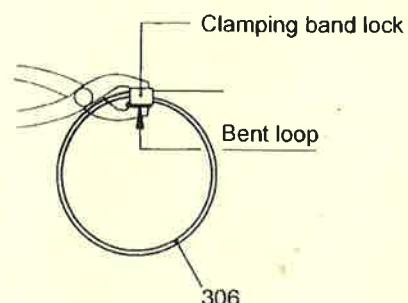

Figure 9: Press down joint clamp loop onto joint clamp lock
- ✓ - Pull on the joint collar (308) with a screwdriver, lift on top with a screwdriver, guide the spray pipe of the oil bottle underneath the collar and fill the joint cavity with ALLWEILER special joint oil type B or oil ET 1510 ISO 460 by Tribol Lubricants GmbH, Mönchengladbach. For application in the food industry with ALLWEILER special joint oil type BL or oil 1810/460 by Tribol Lubricants GmbH, Mönchengladbach. For the filling quantity, see the table in Chapter 7.1.2.4.
- Check, whether the bent loop of the joint clamp (306) is attached to the joint clamp lock. If not, press down with a common pair of flat-nosed pliers (see figure 9).